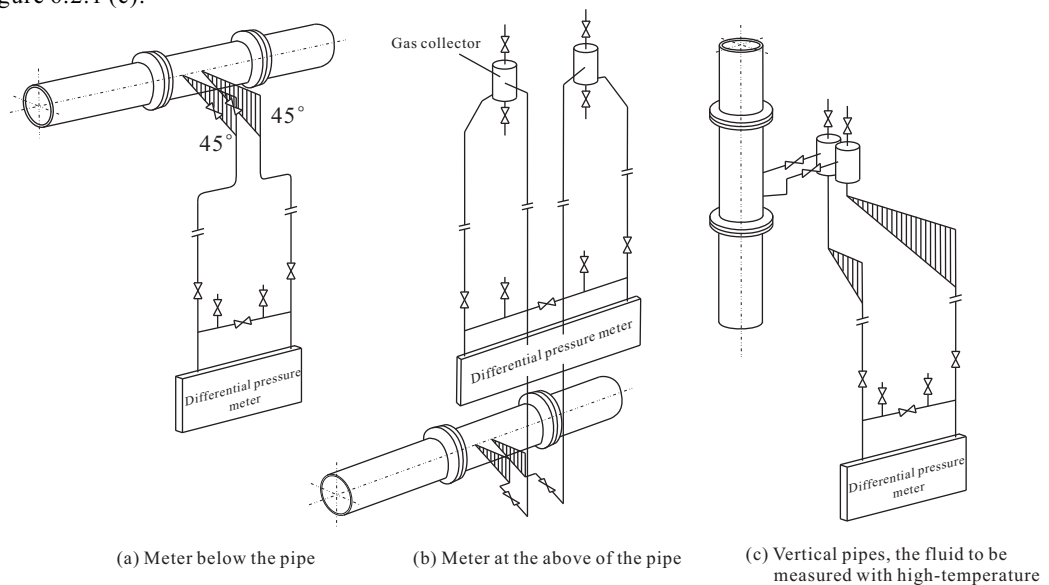

Figure 6.2.1 The signal line installation diagram of measuring clean liquid flow
When the measured fluid is a cleaning liquid, the method of installation of the signal pipeline is shown in figure 6.2.1.
- (1) The differential pressure transmitter is preferably installed under the orifice flowmeter, as shown in figure 6.2.1 (a) , to prevents the gas in the liquid get into the pressure guide tube and differential pressure transmitter. If necessary, extra exhaust valve could installed on the highest position of pressure guide tube.
- (2) If the differential pressure transmitter has to be installed at the above of the orifice flowmeter, then the pressure taps guide tube should be inclined downwardly, the gas collector (or the exhaust valve) installed on the highest position of pressure guide tube, as shown in figure 6.2.1 (b).
- (3) If the orifice flowmeter was installed on vertical pipe, then the zero displacement might be happened because of positive and negative pressure guide tube with different heights. In this case, the user could enquiry from our company and we are pleased to provide the technical service. We recommend installing the isolator for the liquid with high temperature. As shown in figure 6.2.1 (c).